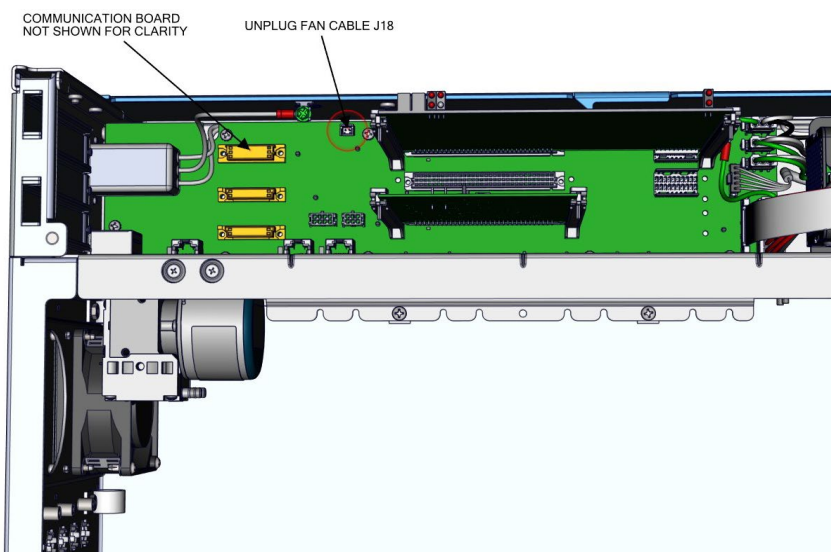

Figure 7–9. Unplugging the Fan Cable
2. Unplug the fan cable J18 (Figure 7–9).
3. Unplug DMC cable (Figure 7–10).